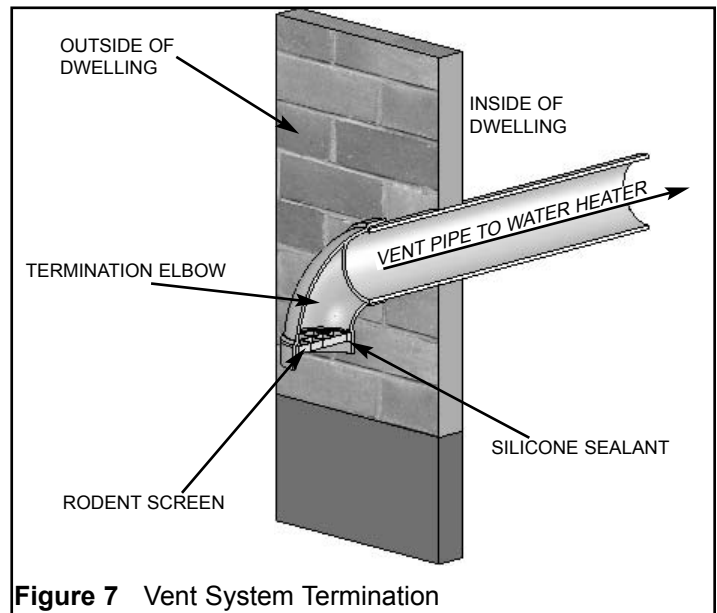

Figure 7 Vent System Termination
2. Install "Rodent Screen" in the termination elbow as shown in Figure 7 and fasten in place using silicone sealant.